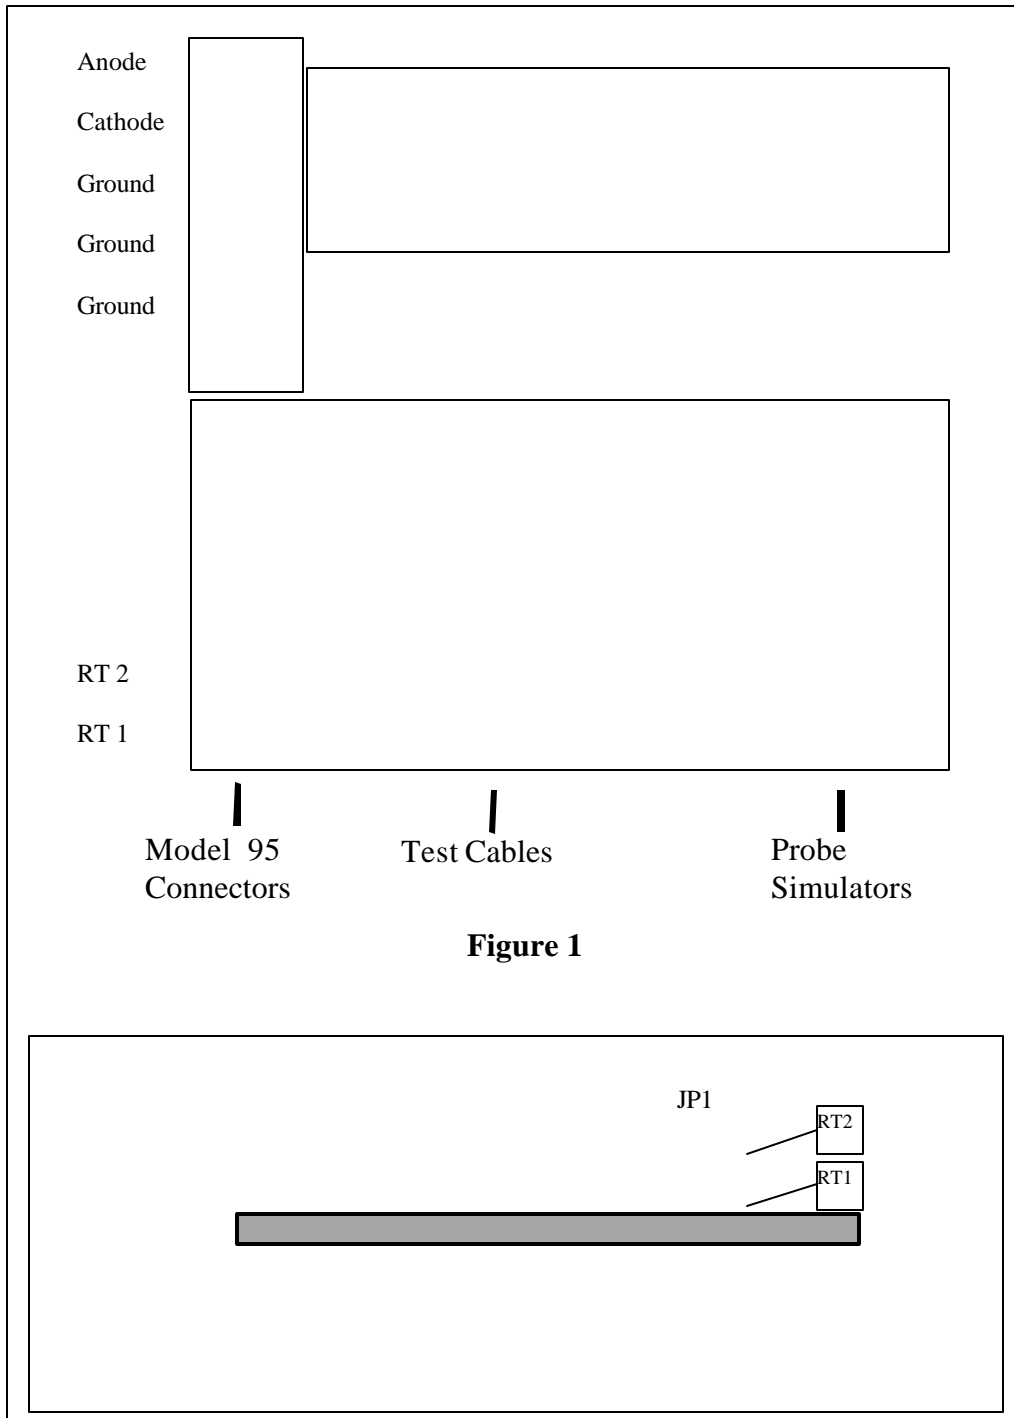

Figure 1
2. Unplug the YSI 95's probe from PCB connector JP1 and JP6. Connect decade resistance boxes as shown in Figure 1. Refer to Figure 2 for connector pinouts.